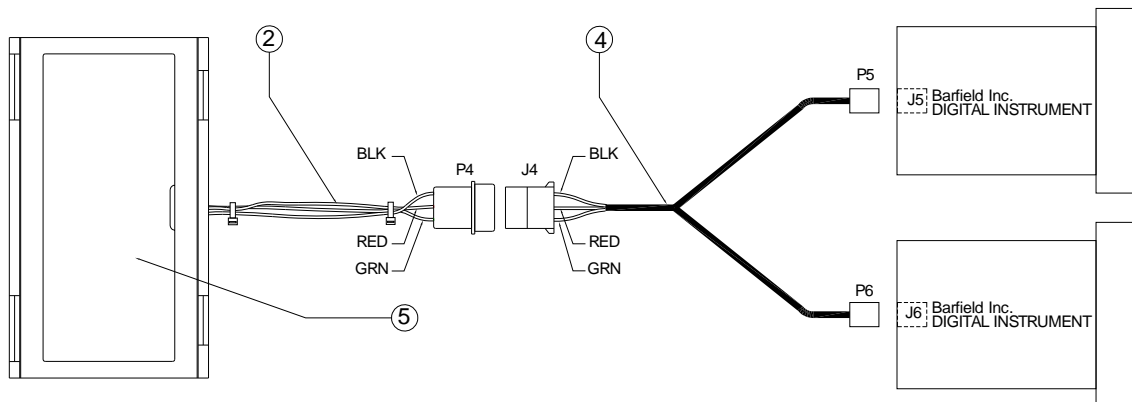

FIGURE 5
4. Connect wire harness (Item 4, Figure 5) to digital instrument(s) and battery pack base harness. (Refer to Figure 5.)
6. Insert alkaline batteries into battery pack (Item 5, Figure 5) and snap onto mounting base.